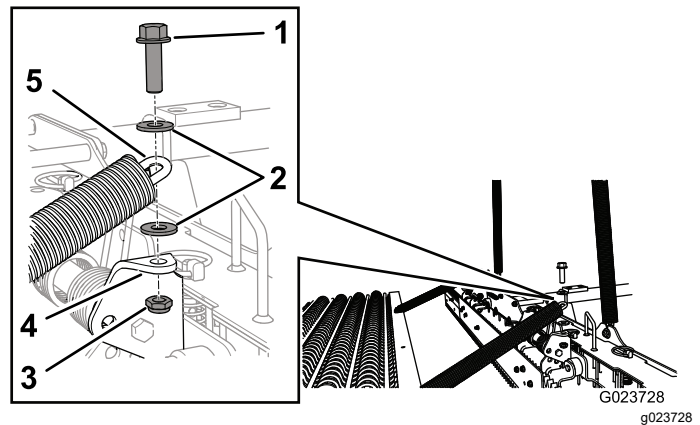

Figure 3
1. Align the end of a chain with the hole in the bracket on that same side of the nail drag (Figure 3).
2. Secure the chain to the bracket with a bolt (3/8 x 1-1/4 inch), 2 washers, and a locknut, as shown in Figure 3.